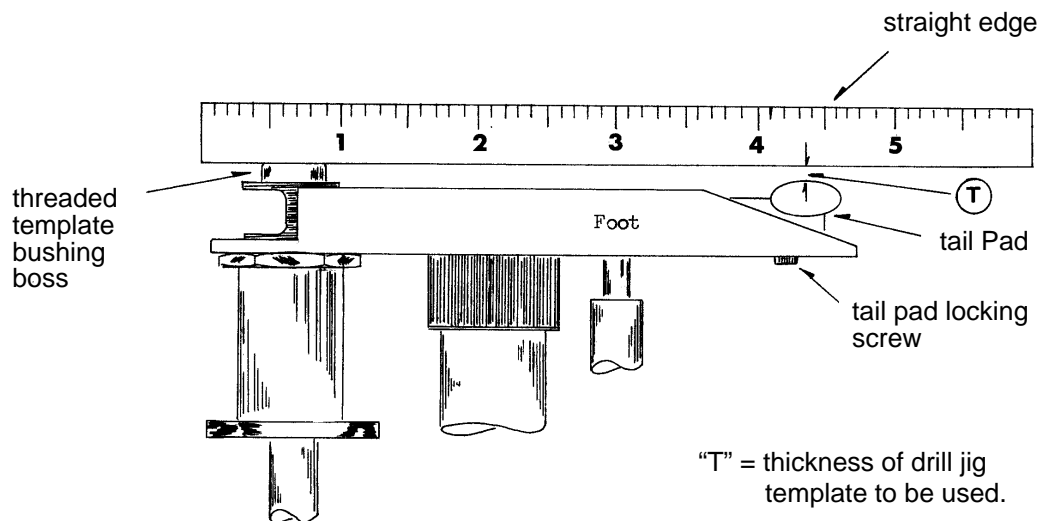

Figure 5 - Levelling Tail Pad on Foot Assembly
- Step 8. Screw the template bushing into the template foot until the shoulder on the lower end of the bushing is just flush with the bottom of the foot. Turn the bushing locknut. Turn the bushing so that the cut out in the bushing is aligned with the opening in the foot (see Figure 5).
- Step 17. Loosen the tail pad locking screw and place a straight edge across the lower surface of the boss on the threaded template bushing. Adjust the tail pad so that the distance "T" (see Figure 5) is equal to the thickness of the applicable drill jig template. Tighten the tail pad locking screw.